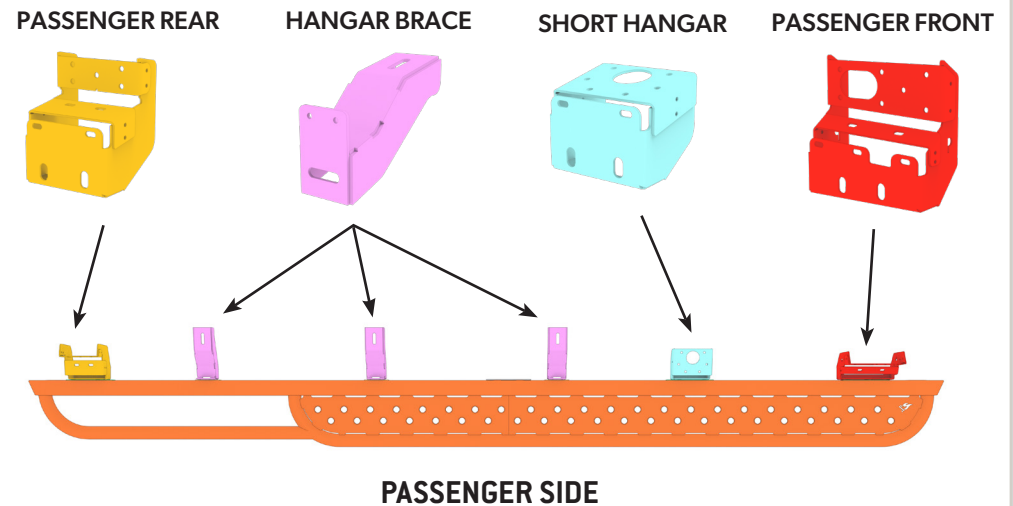

FIG 11
2.4 Identify Passenger Bracket Types: The **Passenger Side Step** features (1) **Passenger Front Bracket**, (1) **Short Hangar Bracket**, (3) **Hangar Braces** and (1) **Passenger Rear Bracket** (FIG 11).